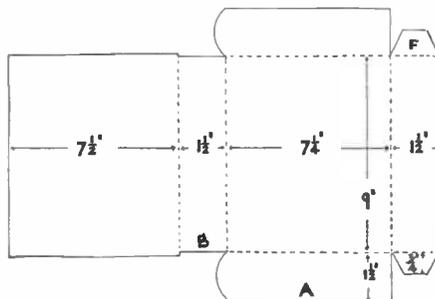
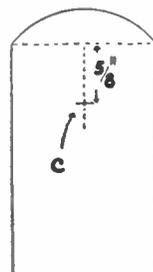

Fig. 1
Fig. 2
You require an empty cardboard carton of reasonable thickness, measuring at least 20ins. by 12ins. One side is cut away and marked out as Fig. 1. Cut out on the unbroken lines, and score on the dotted lines to assist in folding. Note the section marked (B) represents the spine, and this will be slightly curved in the finished file. Although not shown in the sketch, it is helpful to score a line down the centre, with further scores on either side, folding over gently on a brush handle to form the rounded shape. All scoring is done on the inside of the card.
Fig. 2 shows how the centre is obtained for preparing the rounded edge for this book-form file. It should also be noted from Fig. 1 that the lid is